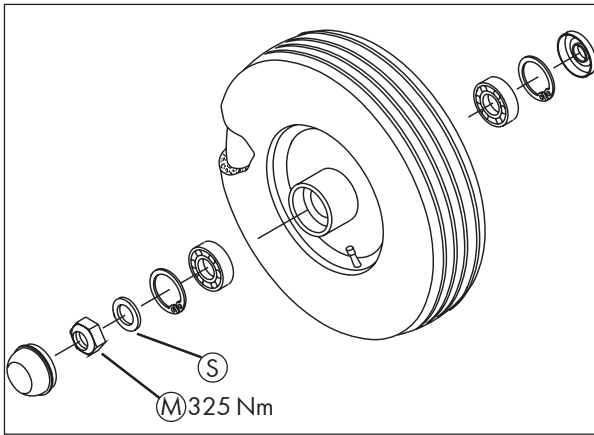

Fig. 3-2
Attach the wheels for the main chassis to the axle stubs. Then bolt the wheel onto the axle stub using $\varnothing 21$ mm washer (S) and M20 nut (M) and fit the hub cap on the rim (fig. 3-2). Use the content of bag D.